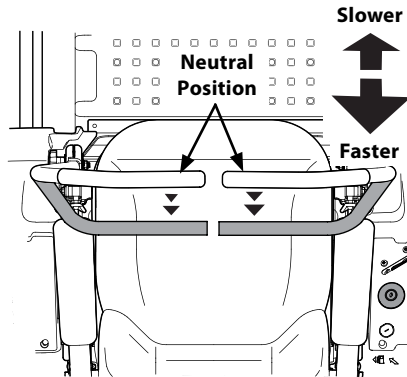

Figure 3-6
1. Slowly and evenly move both drive control levers rearward. The tractor will start to move in the reverse direction. See Figure 3-6.